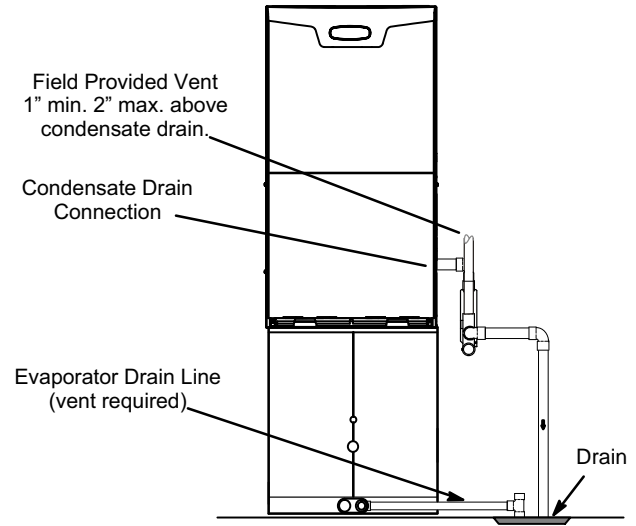

FIGURE 44
- 5 - Figure 44 shows the furnace and evaporator coil using a separate drain. If necessary, the condensate line from the furnace and evaporator coil can drain together. See figures 45 and 43. The field provided vent must be a minimum 1" to a maximum 2" length above the condensate drain outlet connection.